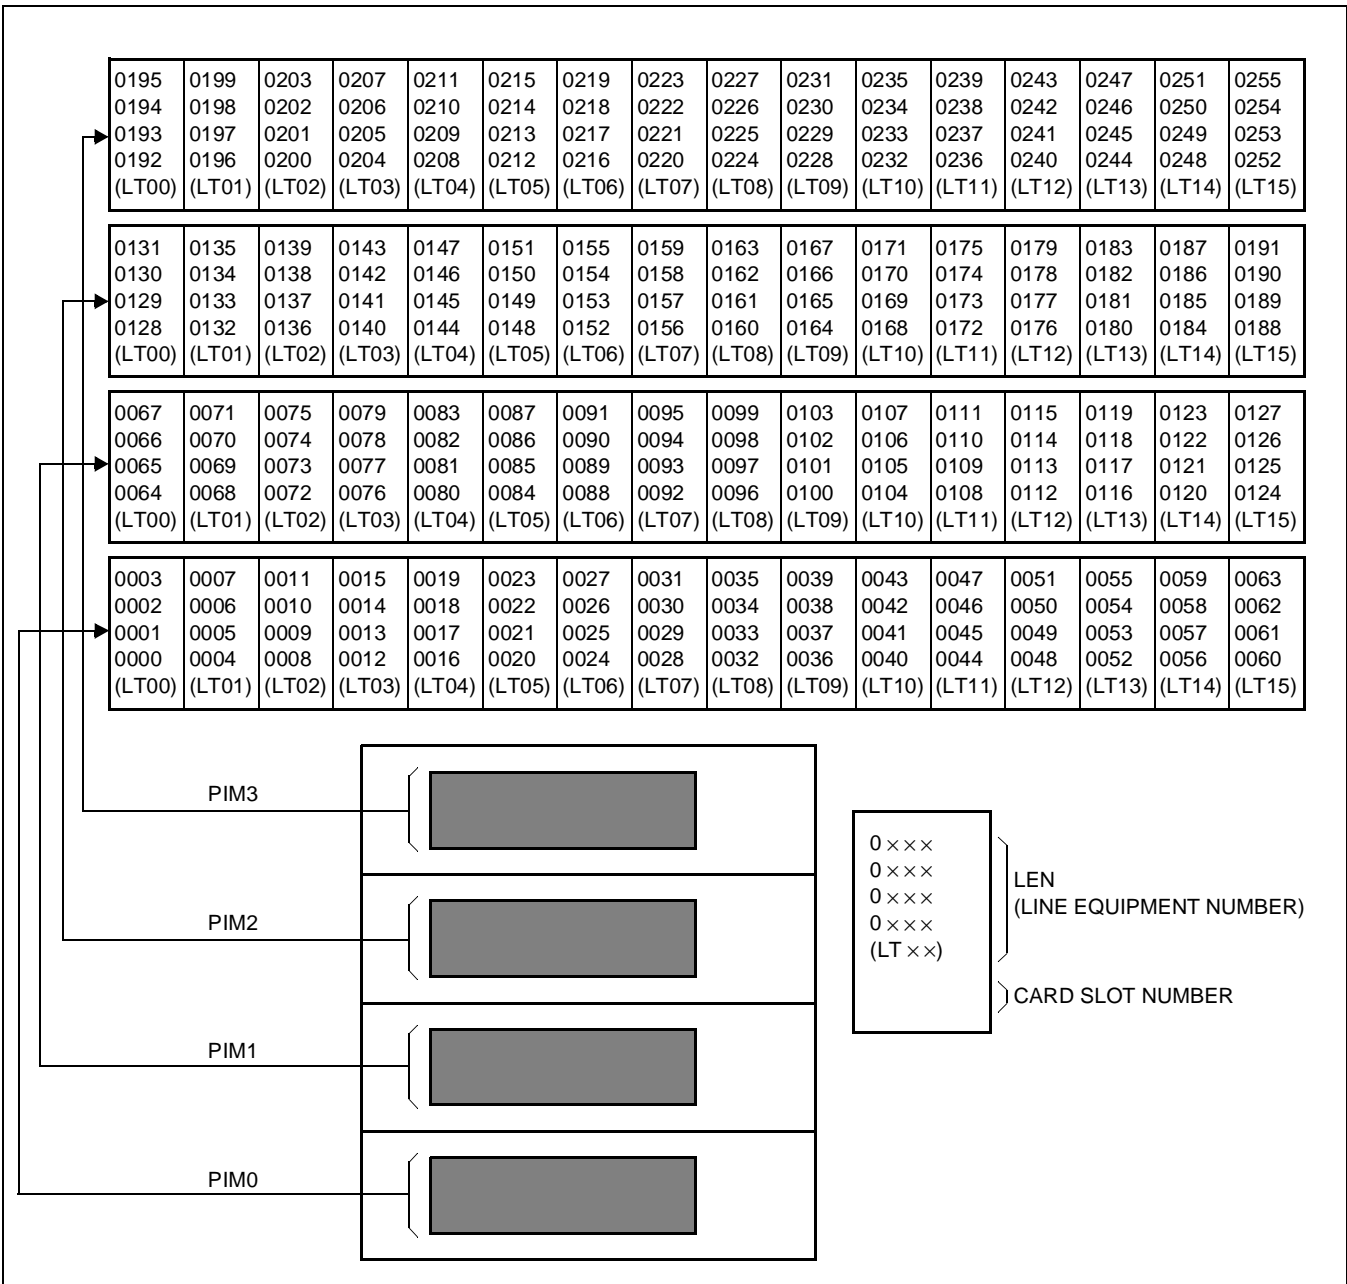

Figure 007-2 Location of each LEN (1 of 2)
- (2) **Figure 007-2** shows the relationship between each Line Equipment Number (LEN) and each Card Slot Number (LT Number).